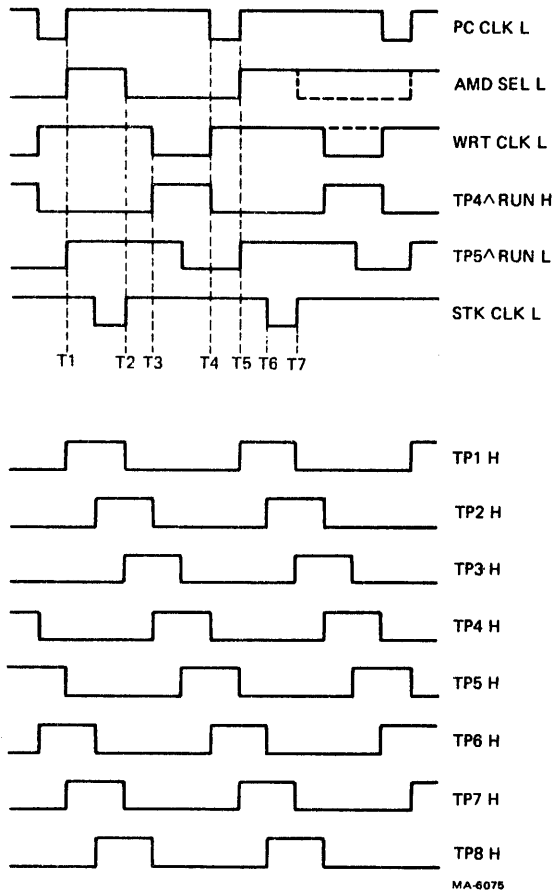

Figure 6-8 Timing Signals
MAIN CLK H is connected as the clock input to a shift register which is used as a divide by six circuits. Each output of the shift register is at 1/6 the frequency of MAIN CLK H (that is, 2.3 MHz). (Refer to Figure 6-8 for the timing relationships of these signals. Note that TP 1 and TP 2 correspond to TP 7 and TP 8, respectively.)
6.3.2.4.1 Instruction Timing – The signals which control μ P instruction timing are shown at the top of Figure 6-8.
STK CLK L occurs during the instruction cycle following the instruction containing a push. The STK CLK L signal is generated at T6 of Figure 6-8. This is the time in which the 2901s outputs are disabled. At T7, the STK CLK L signal goes high and resets the push flip-flop, terminating the push operation.